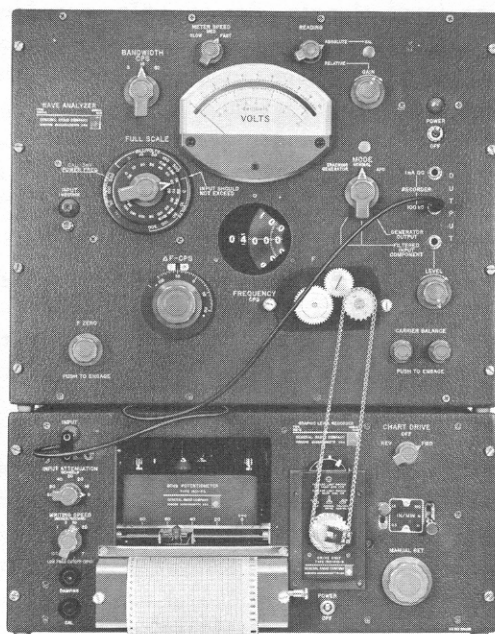

Figure 3.3. Type 1910-A Recording Wave Analyzer consisting of the Type 1900-A Wave Analyzer and the recorder.
**3.4.4 OPERATION WITH TYPE 1900-A WAVE ANALYZER.** The Type 1910-A Recording Wave Analyzer (Figure 3.3) consists of the Type 1900-A Wave Analyzer and the Type 1521-B Graphic Level Recorder. This combination makes possible the automatic recording of spectra in the frequency range of 20 to 50,000 cps. Unlike the sound analyzers, the wave analyzer offers a choice of three